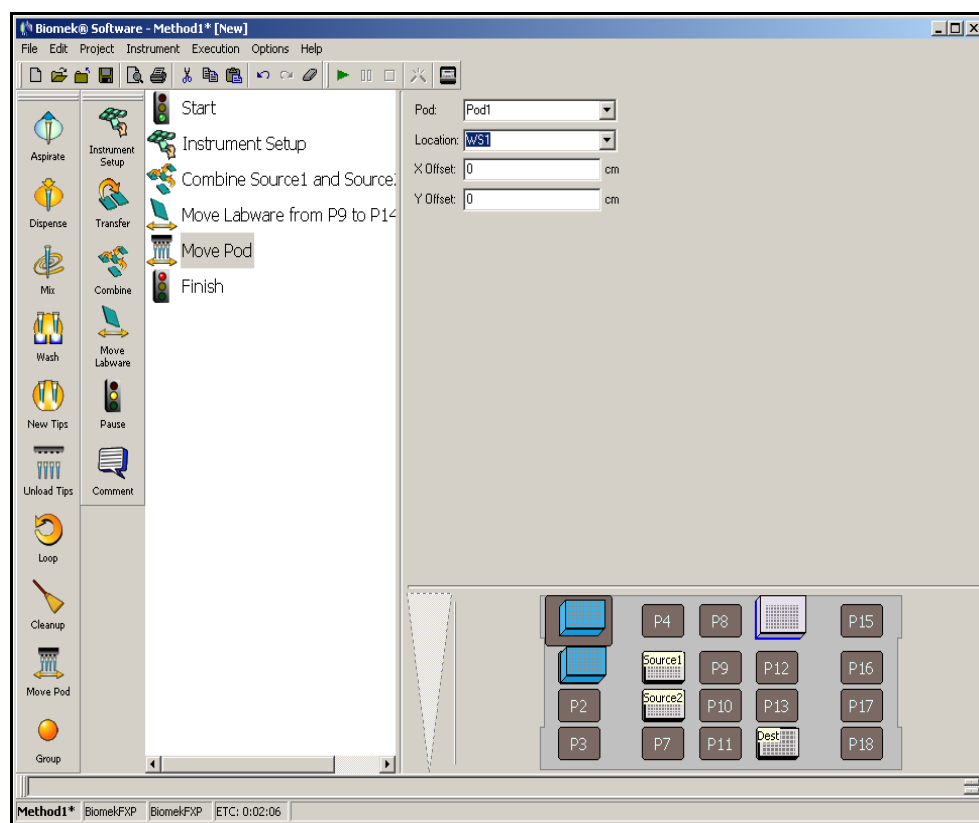

Figure 2-10. Configured Move Pod step
2. From the **Location** drop-down menu, choose **WS1**. This instructs the pod to move and stop over the 96-Channel Wash ALP (WS1) (Figure 2-10).